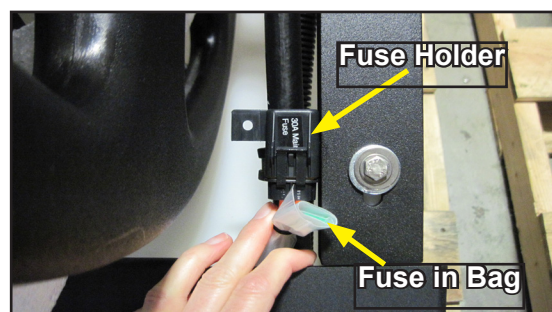

Figure 64. Locate Fuse Holder and 30 Amp Fuse
5. Locate the fuse holder and fuse (fuse is in plastic bag) attached to the HydraCradle Tank wiring harness (see Figure 64).